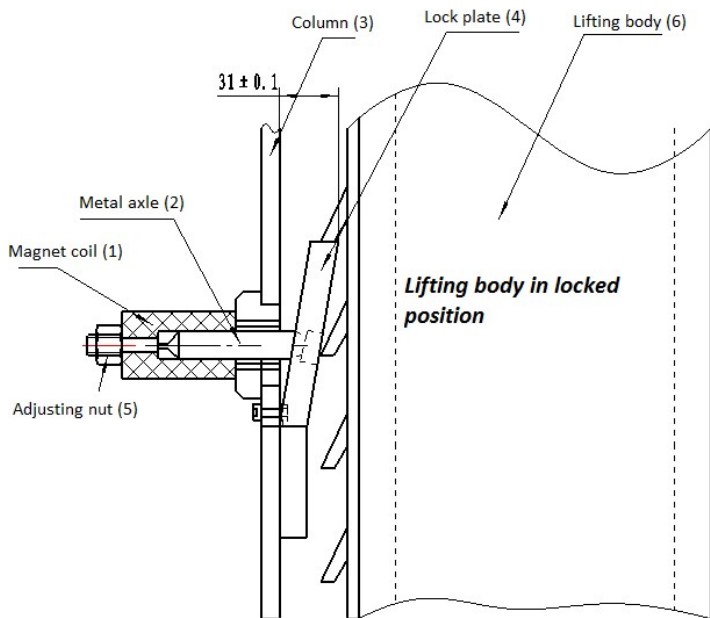

Fig.21
Every column is provided with two safety locks, consisting of a Magnet coil (1), Metal axle (2), Column (3), Lock plate (4), Adjusting nut (5) and Lifting body (6) (refer to figure 21).